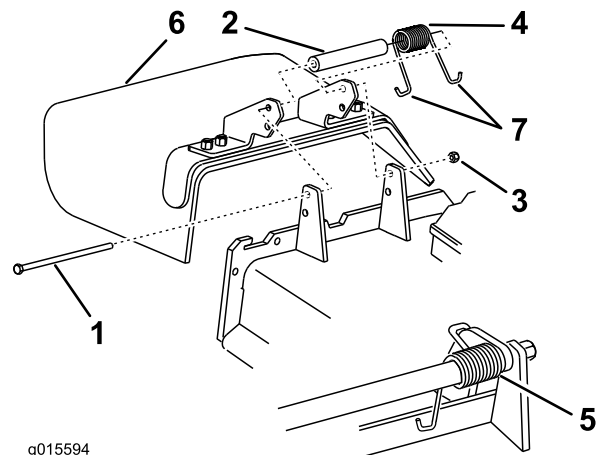

Figure 106
1. Remove the locknut, bolt, spring and spacer holding the deflector to the pivot brackets (Figure 106). Remove damaged or worn grass deflector.
Note: Make sure one J end of spring is installed behind deck edge before installing the bolt as shown in Figure 106.
3. Install bolt and nut. Place one J hook end of spring around grass deflector (Figure 106).